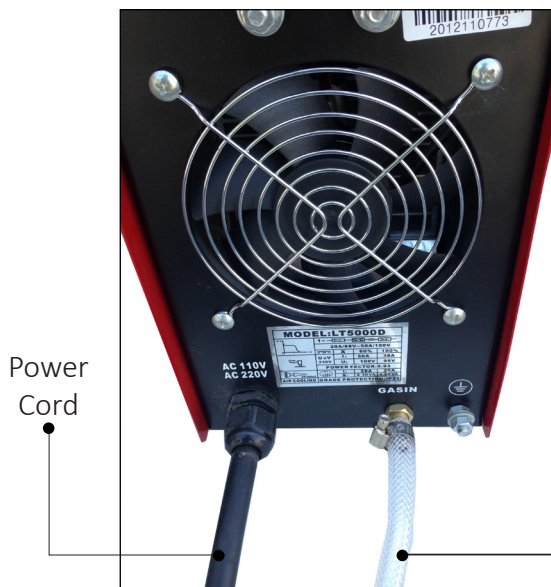
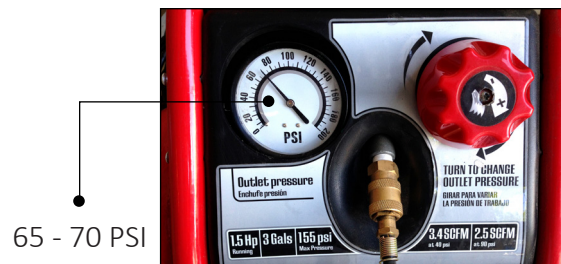

Figure 1.2
Figure 1.3
2. Connect the machine gas inlet (on the back of the machine, Figure 1.2) to an air compressor (Figure 1.3 & 1.4) and set the air pressure to 65 - 70 PSI. (The air regulator is optional as some air compressors provide air pressure control capability).